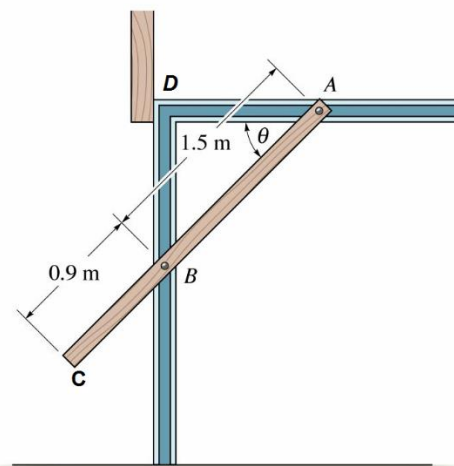

Figure 3
3. The one piece garage door ABC is made of 3 m wide thin plate with a mass of 100 kg. The end A moves along the horizontal and point B moves along vertical track as shown in Figure 3. The door is initially at rest when  $\theta = 0^\circ$ .